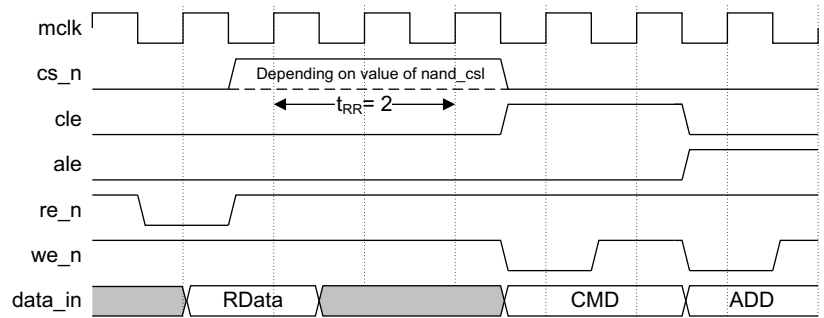

Figure 2-30 Read data phase to command phase
- a read data phase and the next assertion of **we_n** as Figure 2-30 shows.
Figure 2-28 on page 2-40 and Figure 2-30 show that the SMC uses t_{RR} in two different ways. After you determine both values for t_{RR} you must program t_{RR} with the larger of the two values.